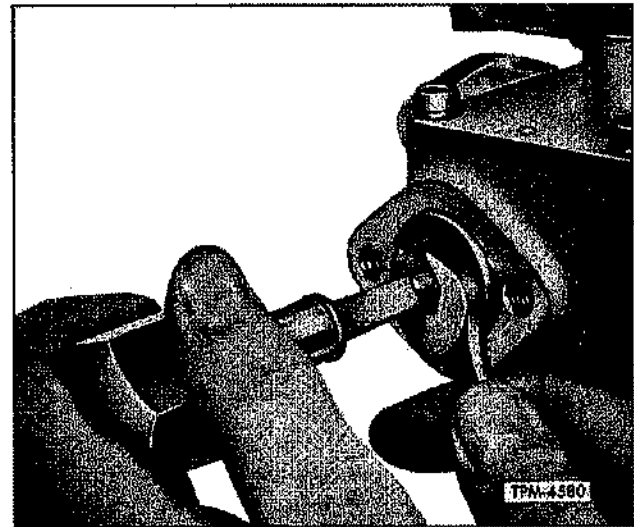

Figure 65—Adjusting Idle Speed
4. If necessary to adjust, loosen lock nut and turn idle screw IN to increase or OUT to decrease speed (fig. 65). Lock adjusting screw with lock nut when idle speed is approximately 15 RPM below desired setting.